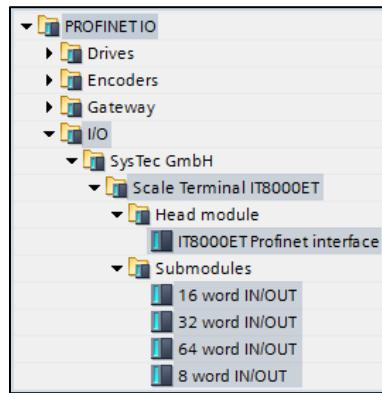

Figure 42: IT8000ET GSD File Catalog List Screen
- Then, check that the package is successfully installed and available in the software catalog list view as per **Figure 42**.